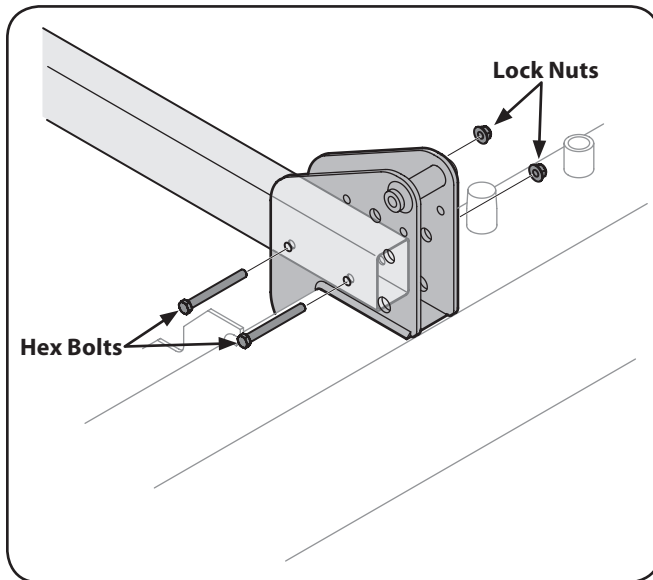

Figure 3-5
2. Place the tongue in position and secure with hardware just removed. See Fig. 3-5.